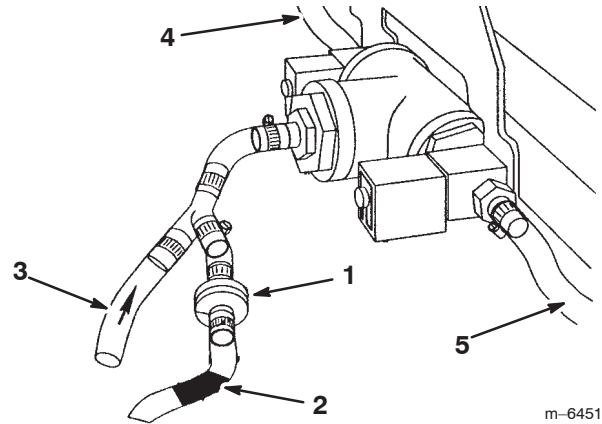

Figure 18
12. Slide the marked supply hose onto the barb on the check valve located at the tee assembly (Fig. 18).
13. Connect the other supply hose to the barbed "Y" at the tee assembly (Fig. 18).